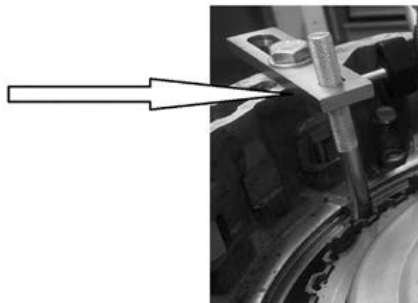

Fig. 1
- Install either long crosspiece (6) and the limit stop (8), fixing them to the clutch housing correctly (see fig. 1).